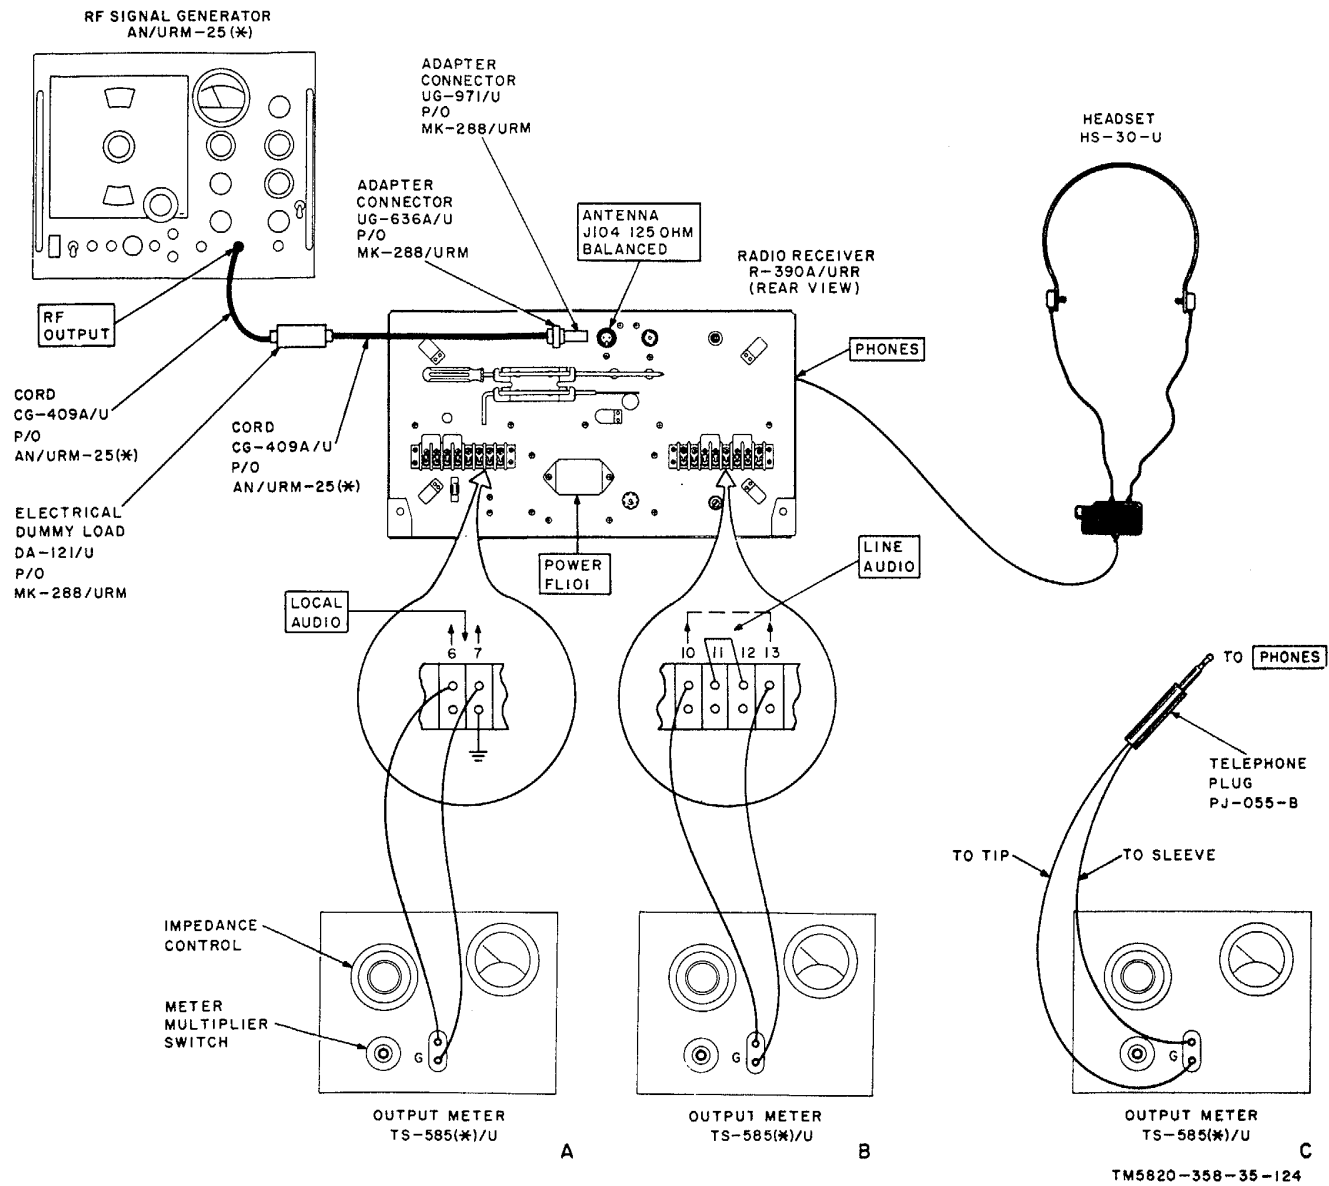

Figure 79. output test setup.
(fig. 79)
b. *Test Connections and Conditions* Connect the equipment as shown in A, figure 79.